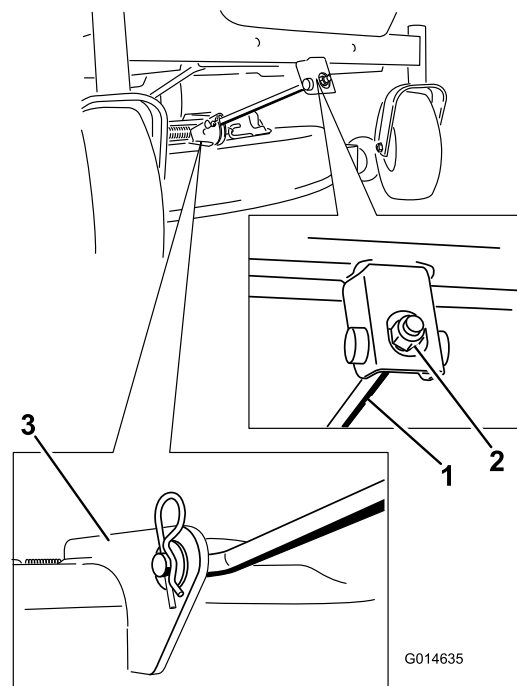

Figure 64
4. Remove the hairpin cotter from the front support rod and remove the rod from the deck bracket (Figure 64). Carefully lower the front of the mower deck to the ground.
- Attach the front support rod to the mower deck with the clevis pin and hairpin cotter (Figure 64).